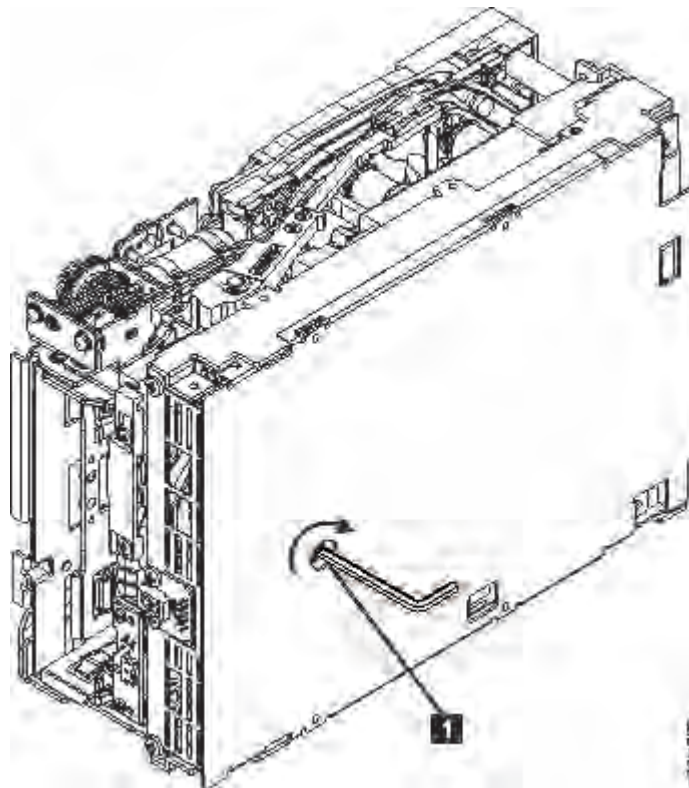

Figure 126. The hex wrench rewinds tape into cartridge
2. From the bottom of the drive, locate the access hole (1 in Figure 126 on page 251).
Note: Be sure to keep tension on the tape as the LBA is drawn into the cartridge by using a hex wrench as shown in Figure 126 on page 251.